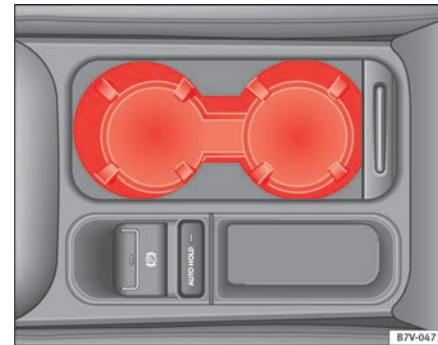

Fig. 115 Front centre console: cup holder.
- To *open*, move the cover backwards ⇒ fig. 115.